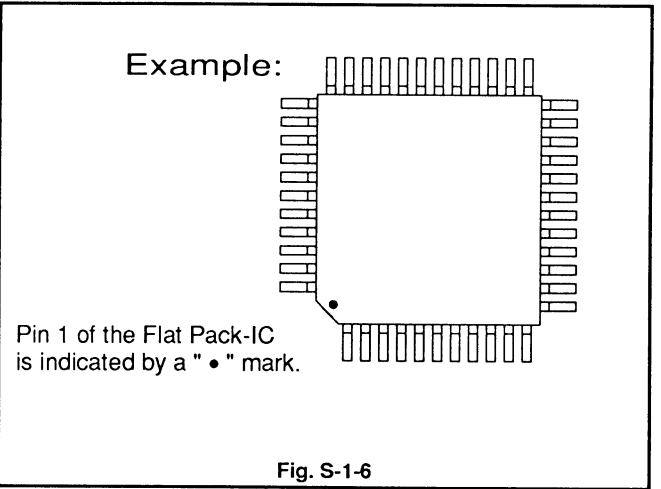
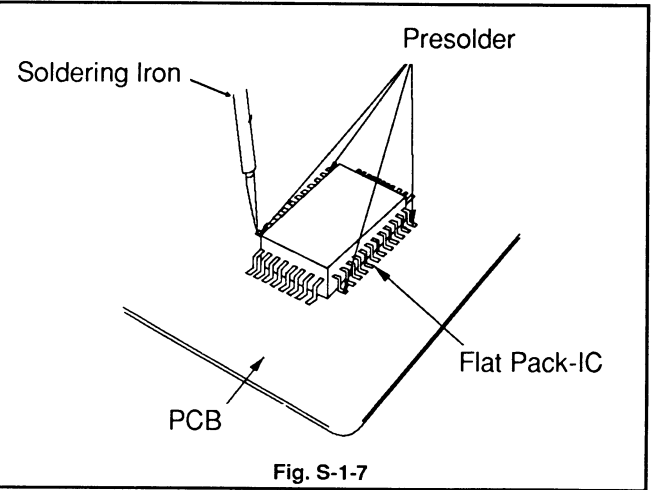

Fig. S-1-6
Fig. S-1-7
- (1)Using desoldering braid, remove the solder from the foil of each pin of the flat pack-IC on the PCB so you can install a replacement flat pack-IC more easily.
- (2)The " • " mark on the flat pack-IC indicates pin 1. (See Fig. S-1-6.) Be sure this mark matches the 1 on the PCB when positioning for installation. Then pre- solder the four corners of the flat pack-IC. (See Fig. S-1-7.)
- (3)Solder all pins of the flat pack-IC. Be sure that none of the pins have solder bridges.